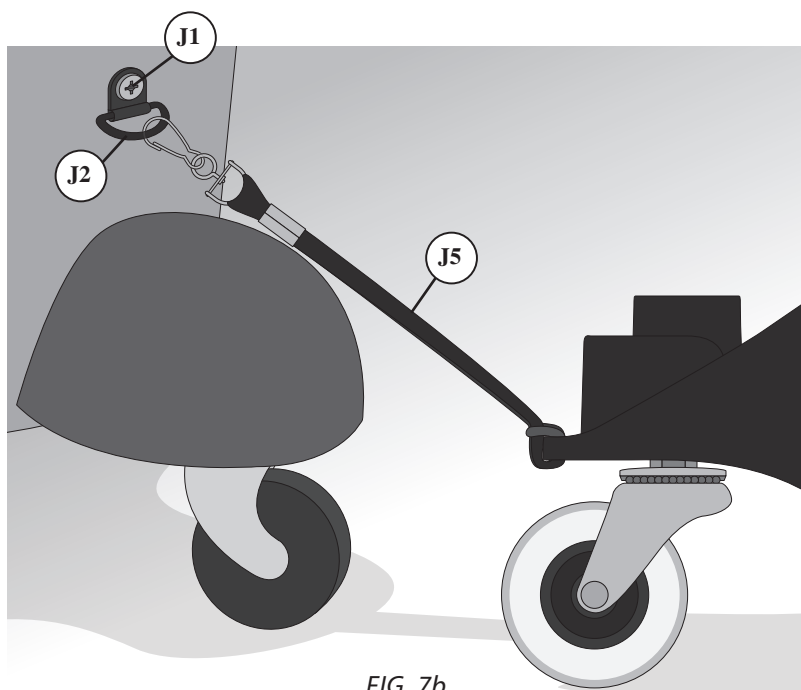
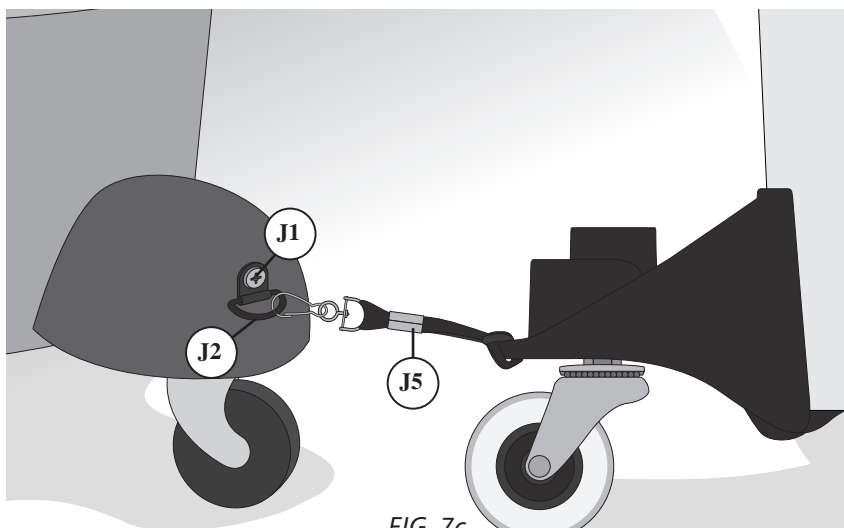

FIG. 7b
FIG. 7c
- b. Attach the D ring (J2) to the vacuum with the Sheet Metal Screw. (J1) Then loop the Lanyard (J5) around the slot on the Caster Mount and through itself. Finally, clip the Lanyard to the D ring [FIG 7b] [FIG 7c].